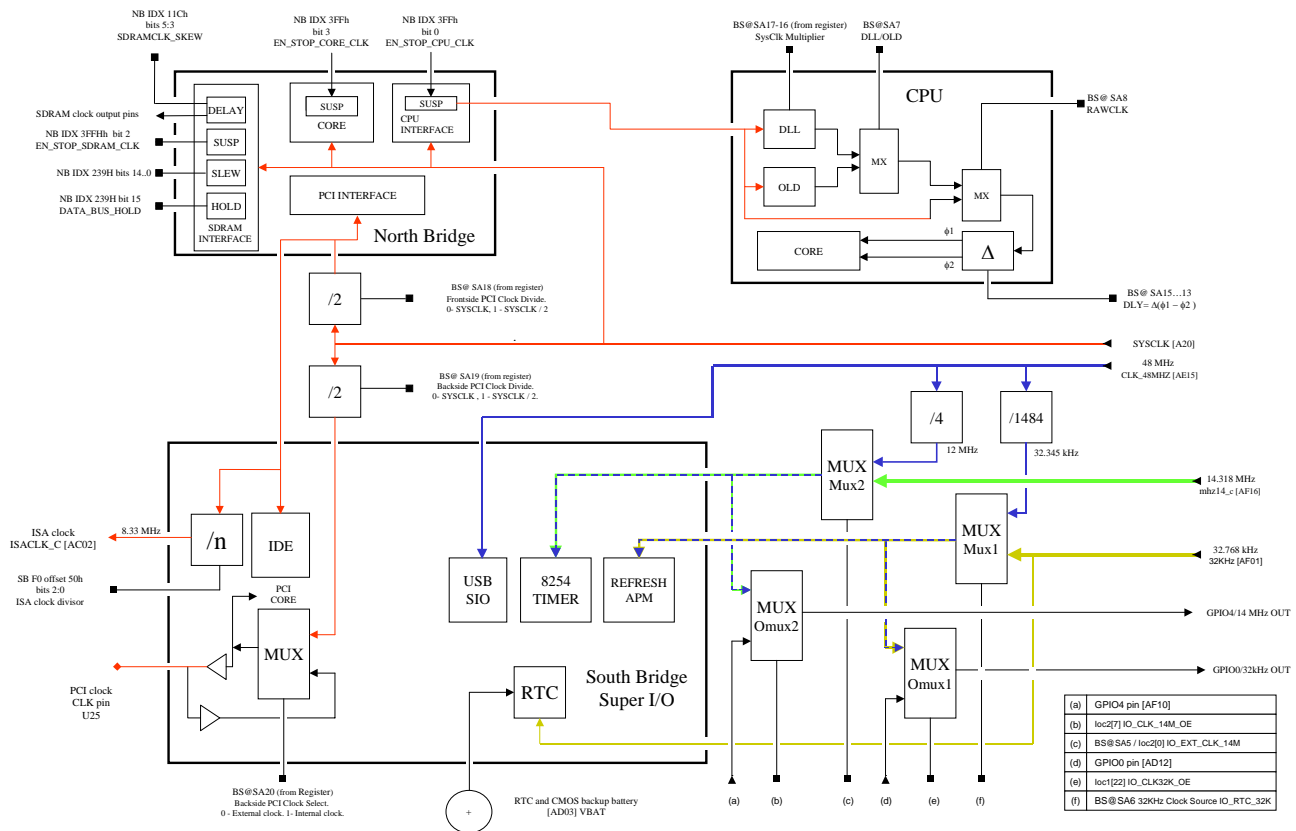

Figure 5-9 System Clocking and Control
- d. See Table 4.8 "GPIO Interface Signals" on page 182, and see Figure 5-9 "System Clocking and Control" on page 443 (and the figures following in this section).